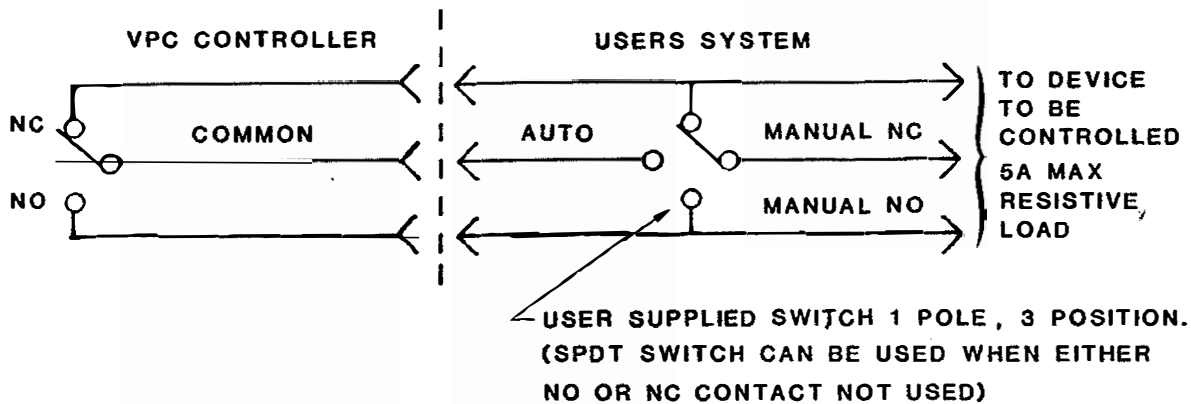

Figure 2-5. Typical Process Control Switch Connections
operated manually as well. Figure 2-5 illustrates typical connections.
- e. Ensure that all process controlled devices are under manual control prior to connecting the process control connector into the appropriate process control option receptacle on the rear panel. Refer to Figure 2-5.